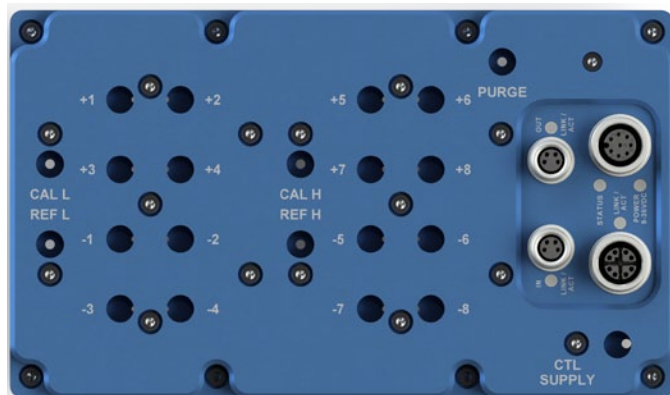

FIGURE 2.5 - DSA5000 DUAL RANGE, TRUE DIFFERENTIAL 8DDR TOP VIEW
For true differential pressure measurement applications where two pressure ranges are required, the DSA5000 Dual Range, True Differential 8DDR provides two (2) ports for each sensor, and 8 channels total (16 total inputs). They are arranged into two (2) groups of four (4) transducers. Each group can be of a different pressure range. A calibration valve is provided for each group of four (4) sensors. Similar to the True Differential module, each group of transducers has a dedicated calibration valve that allows the input pressures to be blocked off during any calibration, including a zero offset calibration (CALZ). In calibrate mode, the reference (negative inputs) will be shorted to a single reference port per group. Like the Dual Range 8DR module, the common ports are labeled CAL H and REF H (high, channels 5-8), and CAL L and REF L (low, channels 1-4). Standard configuration will place the lower pressure range in the “low” side, channels 1-8. This can be altered at the customers request. Figure 2.5 depicts the top panel of a DSA5000 Dual Range, True Differential 8DDR module.